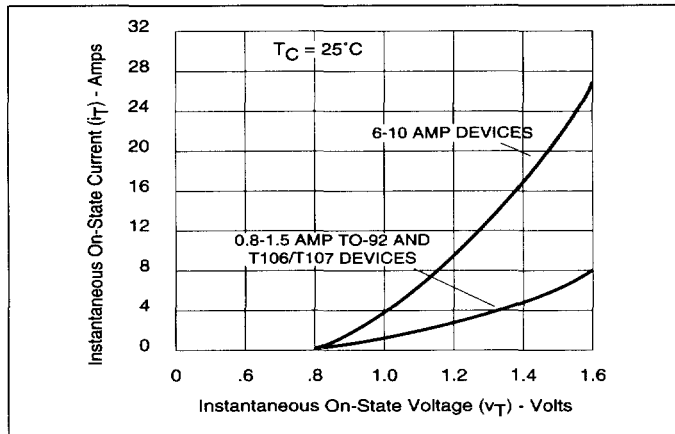

Figure 5.11 Instantaneous On-State Current vs On-State Voltage (Typical)
- (3) See Figure 5.11 for instantaneous on-state current (i_T) vs on-state voltage (v_T) - (typical).